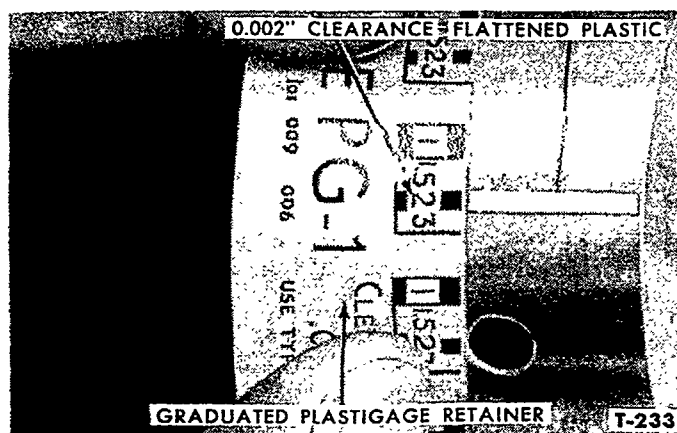

Figure 57—Measuring Flattened Plastigage
3. Remove the bearing cap. Without moving the plastic, check its width at the widest point with the graduations on the Plastigage container, as shown in Figure 57.